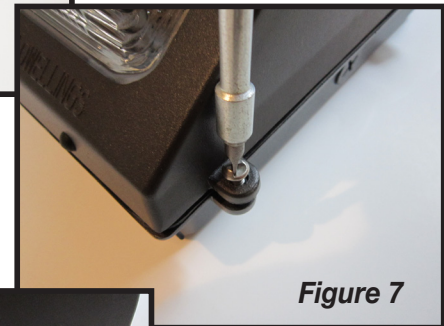
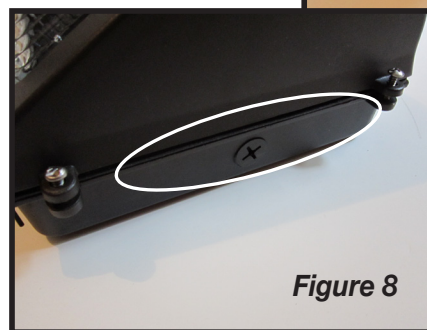

Figure 7
Figure 8
- 6) Close enclosure cover being certain that no wires are pinched and are free of the cover. Using the 2 – One way tamper resistant screws 8-32 x 3/4" for the QSSI WP15, or the 2 – One way tamper resistant screws 10-24 x 3/4" for the Grandlite SM106, secure enclosure cover. See FIGURE 7. Place the "No Serviceable Components" sticker on side of enclosure in area shown in FIGURE 8.